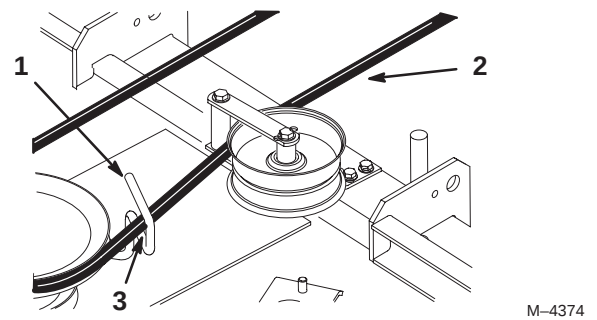

Figure 67
11. Rotate the belt guide on the rear of the mower so that it is 1/8–1/4 inch (3–7 mm) away from the vertical side of the PTO belt (Fig. 67).